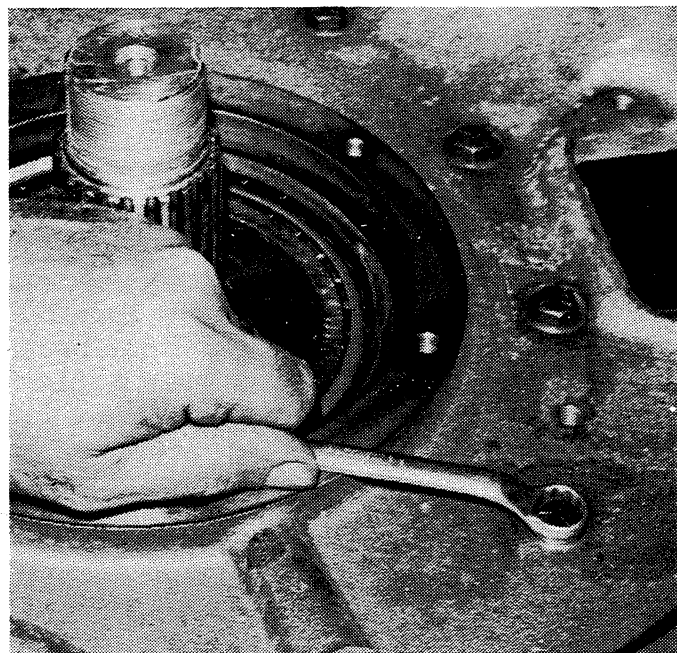

Figure 6-32. Removing or Installing Screws on Front Housing.
3. Remove nineteen hex-head screws (Figure 12-5, 26) from the front housing assembly. See Figure 6-32.